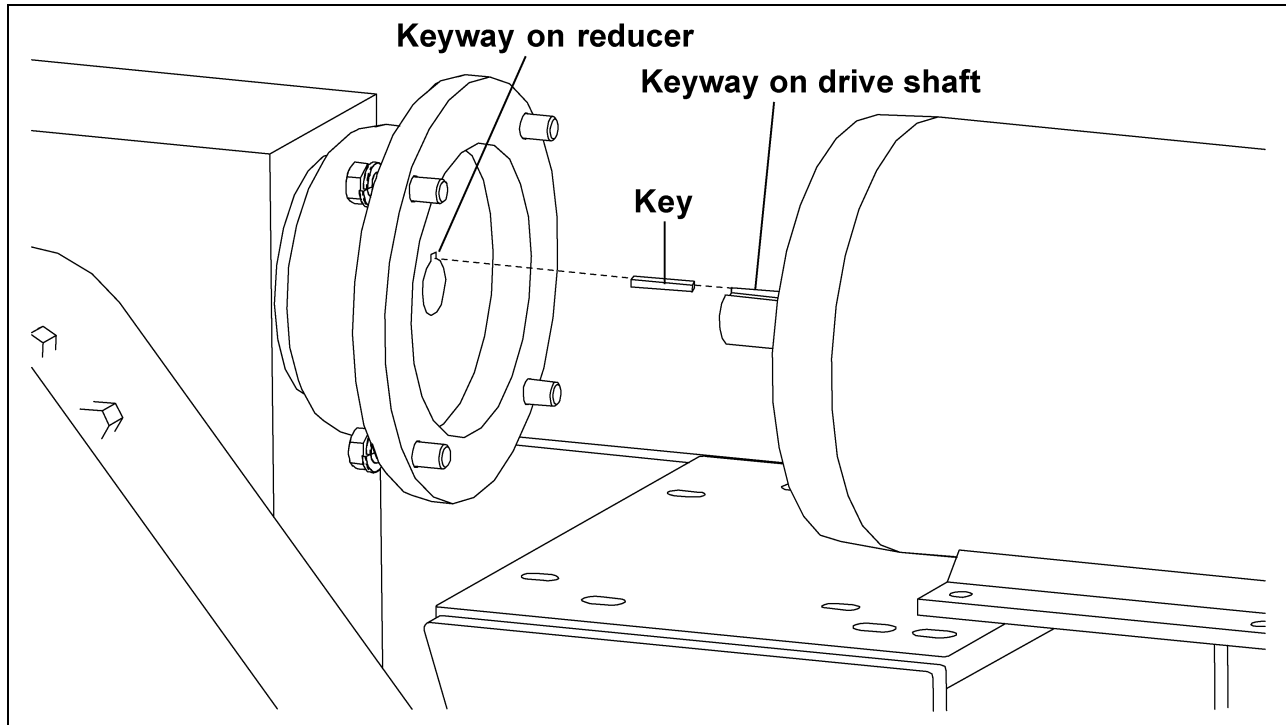

Figure 5O
C. Line up keyway on shaft with keyway on reducer and insert shaft into motor. (See Figure 5O.)